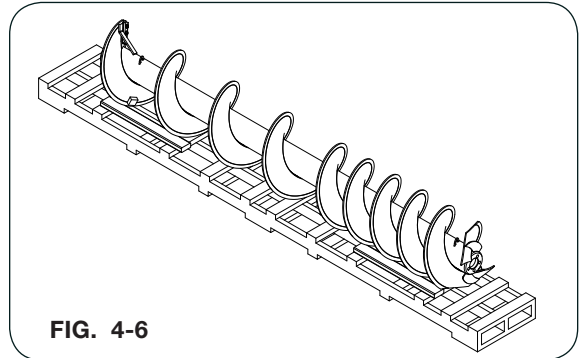

FIG. 4-6
4. The replacement auger flighting is factory balanced. Remove entire auger from shipping crate and secure from rolling. The lower auger assembly is pictured in figure 4-6 for reference.